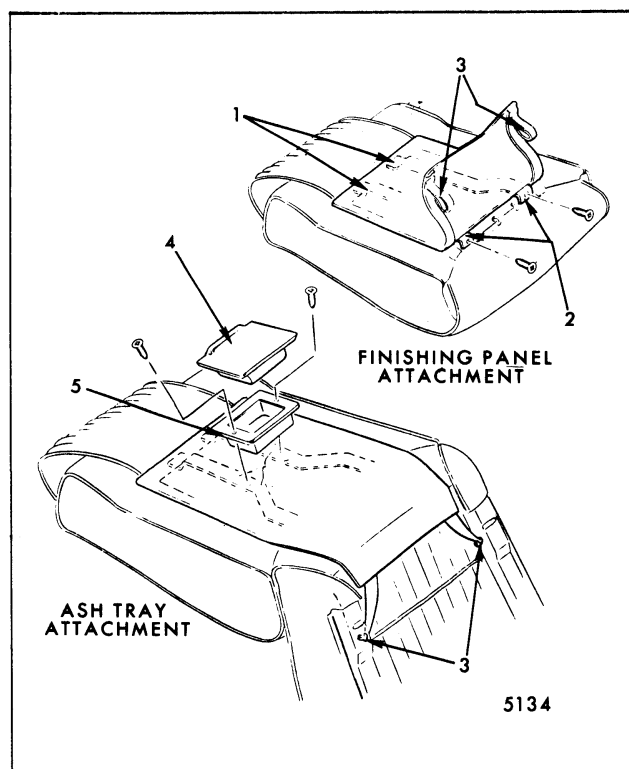

Fig. 9-39-Salon Bucket Seat Back Ash Tray and Finishing Panel
1. From under rear of seat detach seat back finishing panel elastic straps (Fig. 9-39).
1. Remove ash tray from housing. Remove two screws securing ash tray housing to seat back frame and remove housing (Fig. 9-39).
2. From under rear of seat detach seat back finishing panel elastic straps (Fig. 9-39).
3. Lift up lower flap of finishing panel and remove two screws securing panel to lower retainers (Fig. 9-39).
4. Lift finishing panel upward to disengage panel from upper retainers (Fig. 9-39) and remove panel from seat back.